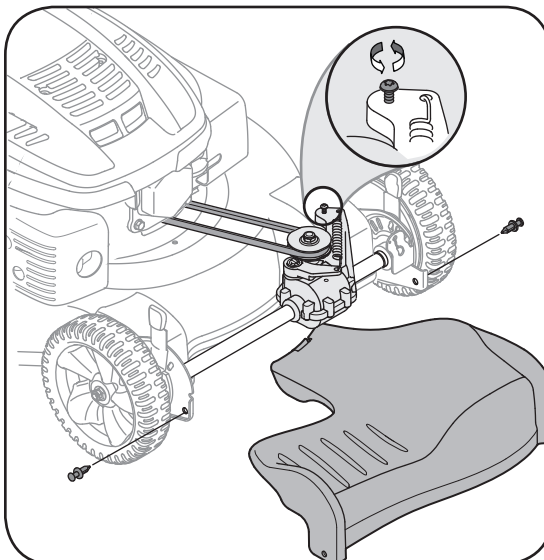

Figure 5
1. Remove the front drive cover by sliding off the two plastic rivets on each side of the cover with a screwdriver. See Figure 5.
2. Loosen screw holding belt tension spring to transmission. See Figure 5 inset. Do not remove screw completely. As you loosen it, tension on the belt will be released.